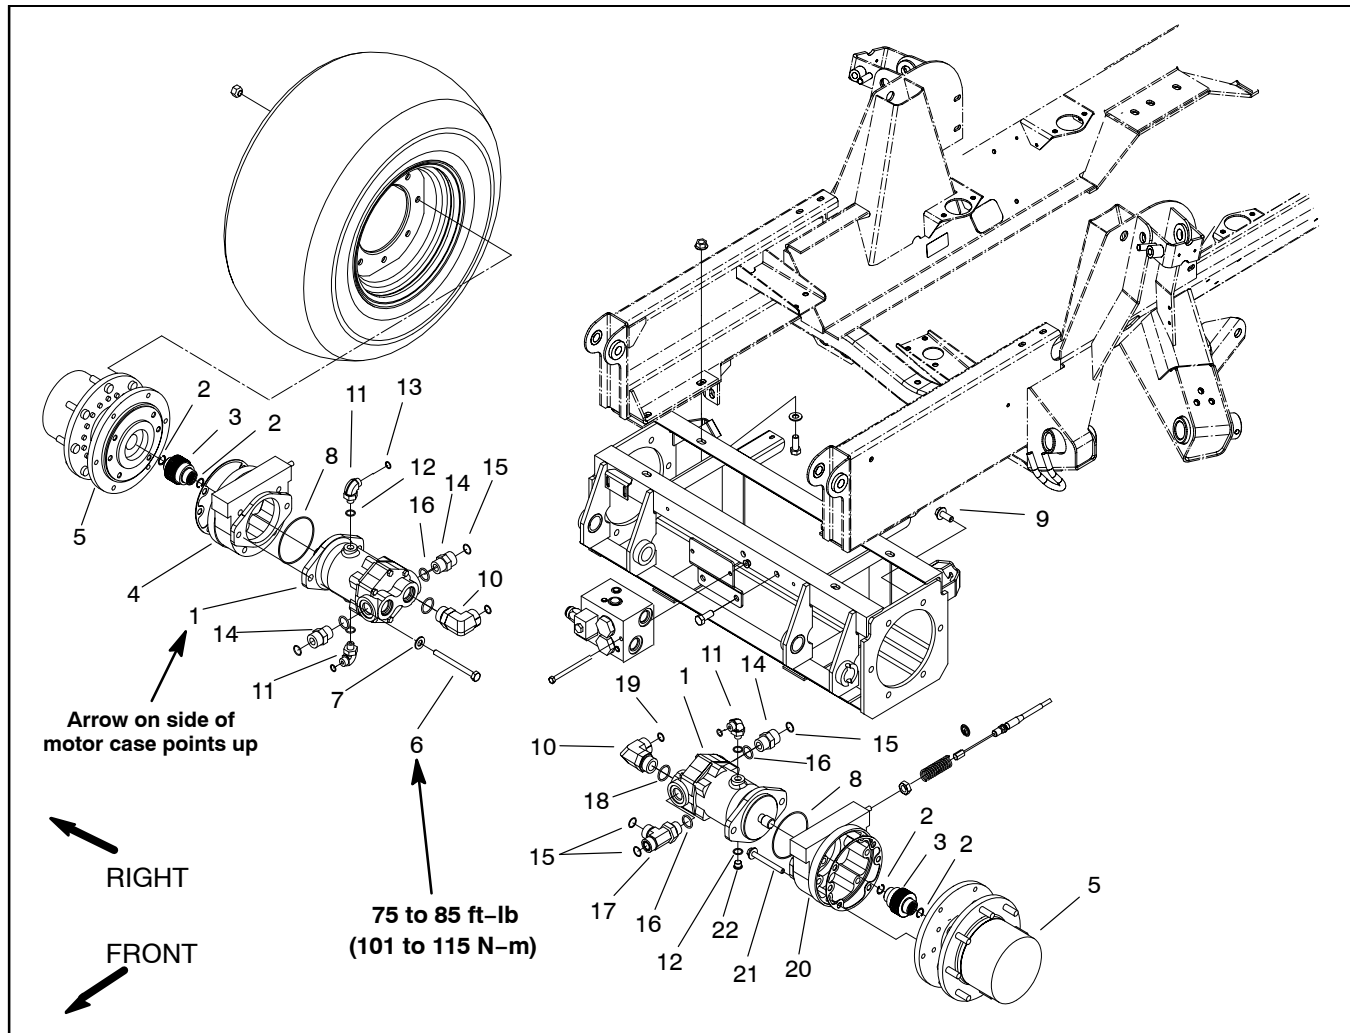

Figure 59
Removal (Fig. 59)
4. Remove wheel motor using Figure 59 as a guide.
Installation (Fig. 59)